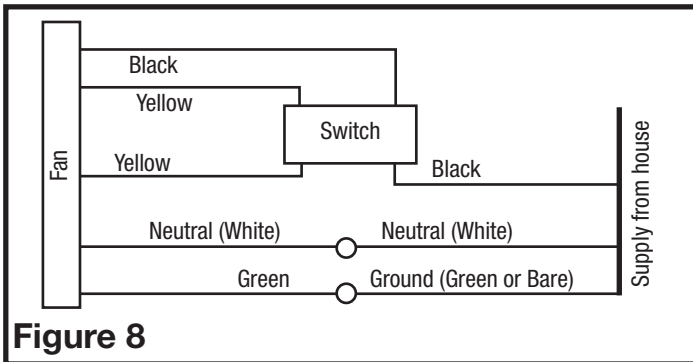

Figure 8
- 2b. **Intermittent Ventilation:** For two speed fans wired for intermittent ventilation with a standard duplex toggle switch (such as Leviton 5224-2W not included). Connect the White wire of the fan to the White (Neutral) wire from the power source. Connect the ground wire from the fan to the ground wire from the power source. Properly ground the switches. Connect the black wire from the supply to one side of the top switch. Connect the black wire from the fan to the other side of the top switch, Connect 1 yellow wire from the fan to each side of the bottom switch. The top switch turns the fan On & Off, the bottom switch changes speed between high and low (Figure 8). Use approved methods for all connections.